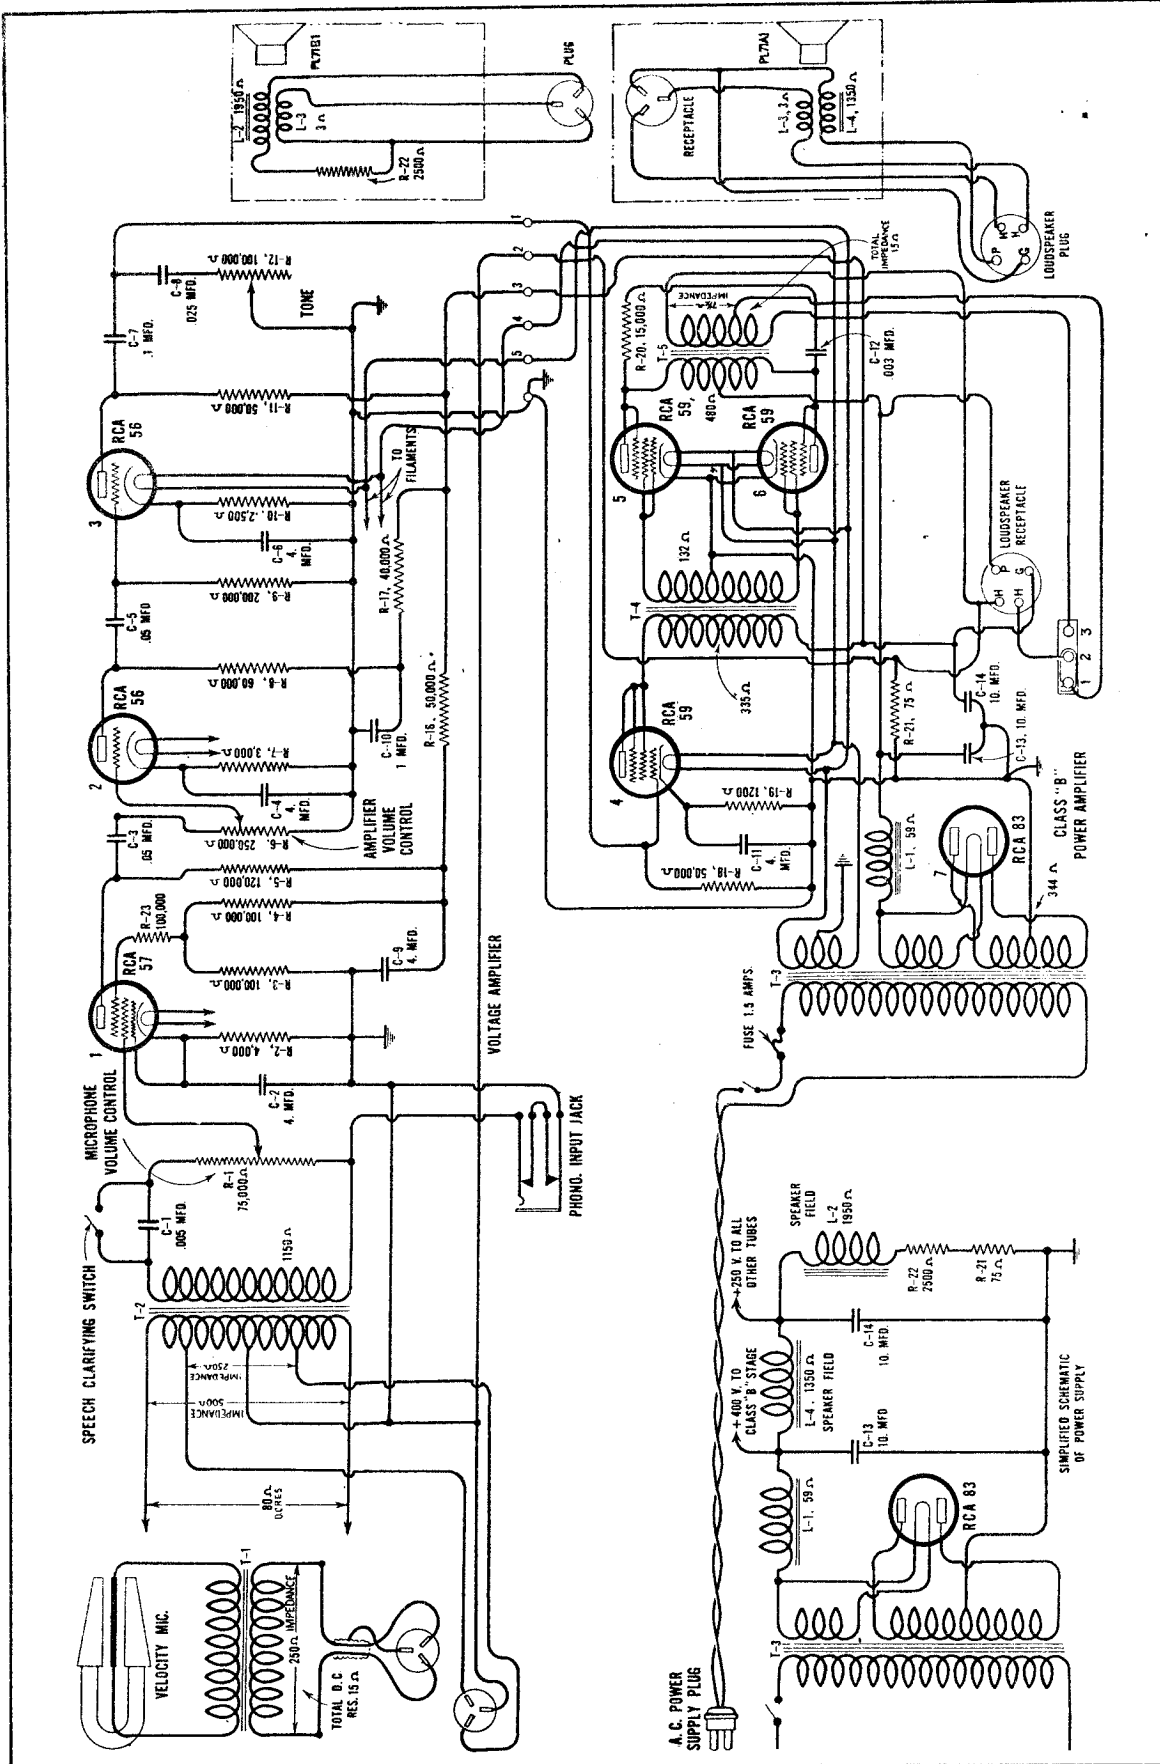
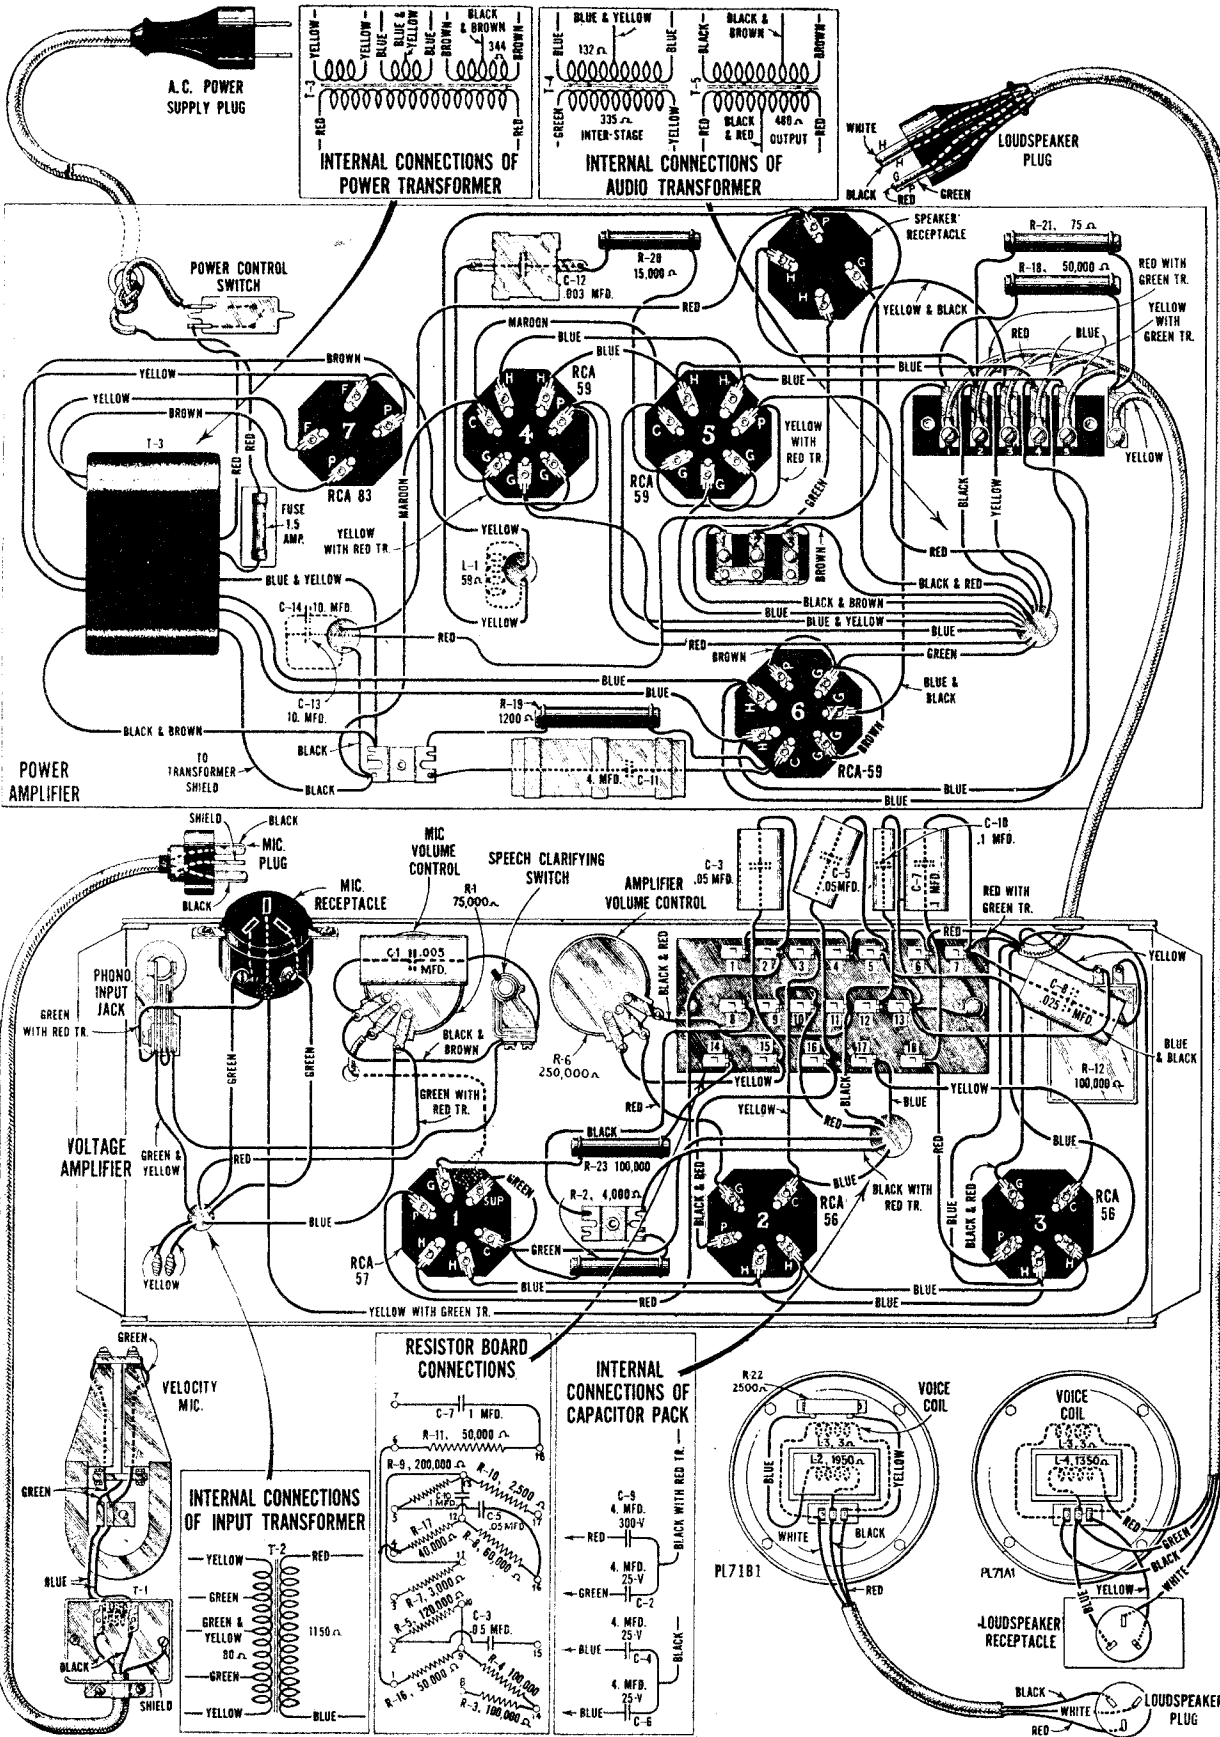

Figure 7—Schematic Circuit Diagram—PG-62 Equipment
Figure 8--Wiring Diagram--PG-62 Equipment
- (c) If the Model PB89A1 power amplifiers are used, connect a set of loudspeakers to each power amplifier as shown in Figure 8. If the Model PB89B1 power amplifiers are used, connect a set of loudspeakers to each power amplifier as shown in Figure 3.
The schematic wiring diagram for the PG-62 Equipment is shown in Figure 7. The wiring diagram for the complete PG-62 Equipment is shown in Figure 8. Figures 9 and 10 show the schematic and wiring diagrams respectively for the Universal Amplifier.